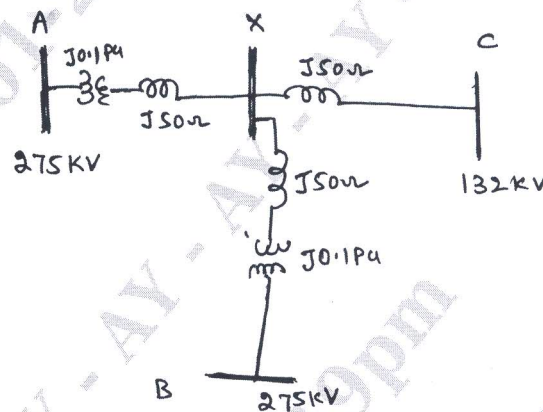

Fig Q7(b)
b. Three generating stations are connected to a common bus X as shown in Fig Q7(b). For a particular load, the line voltage at the bus bar falls by 2KV. Calculate the reactive power injection required to bring back the voltage to original value. All are in pu values on base of a 500MVA.